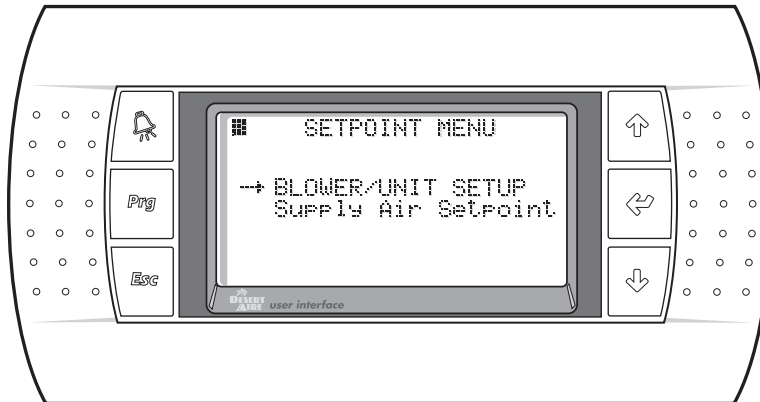

Figure 24
2.4. Setpoint Menu (Figure 24)